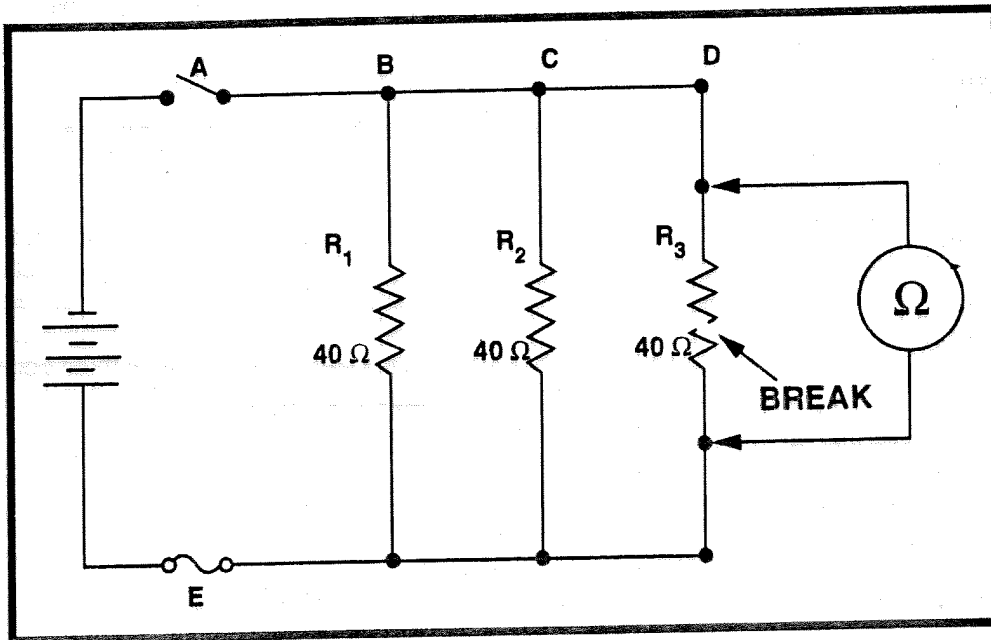

Fig. 9.6. Circuit Diagram.
23. (Refer to figure 9.6) If resistor  $R_3$  is disconnected at terminal D, what will the ohmmeter read ?